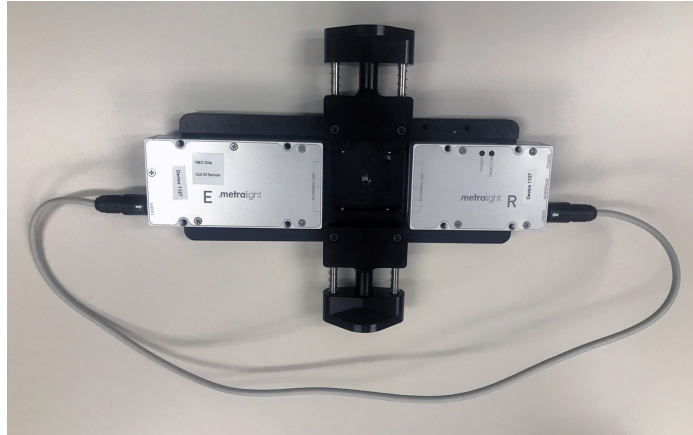

Figure 2: Emitter and Receiver connected with the Interconnect cable
4. Connect the micrometer emitter (labeled with the letter “E”) to the receiver (labeled with the letter “R”) using the short Interconnect cable. See figure 2.